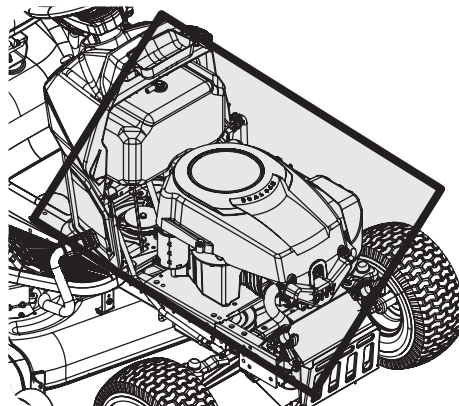

Figure 4-8
- Clean under the hood. Exhaust manifold, around fuses, all wiring and harnesses, muffler pipe, muffler shield, engine intake screens and cooling fins, etc. See Figure 4-8.